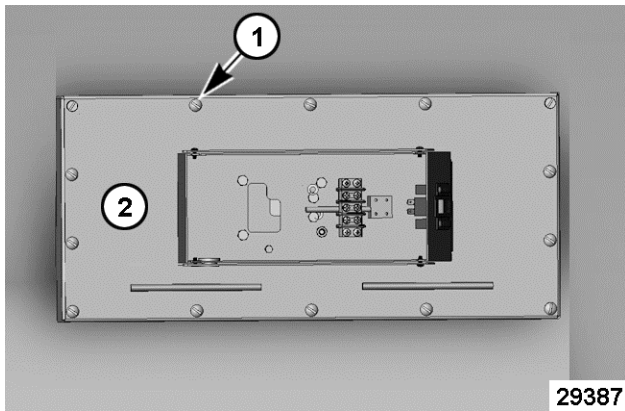

Fig. 35
- C. Remove 12 screws (1, Fig. 35) securing platen cover assembly (2, Fig. 35) to clamshell assembly.